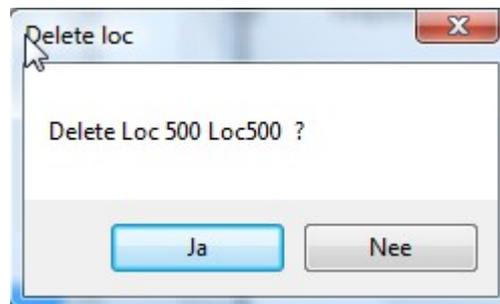

Figure 40: Delete Loc
- With the button Del Loc a locomotive can be deleted from MDRRC. Select the loc to be deleted in the list and selec press Del Loc. A confirmation is required before deleting as shown in figure 40.